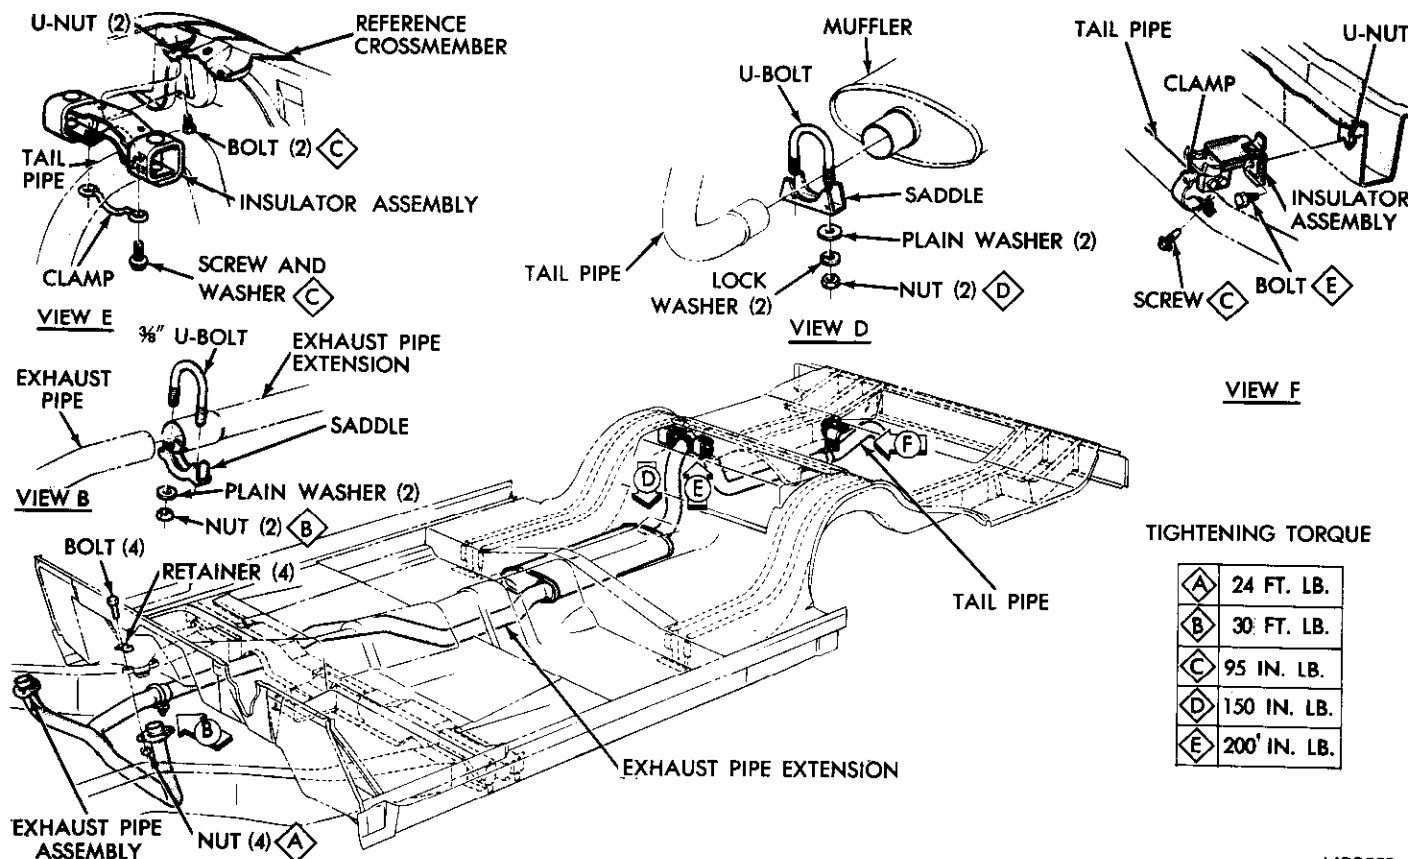
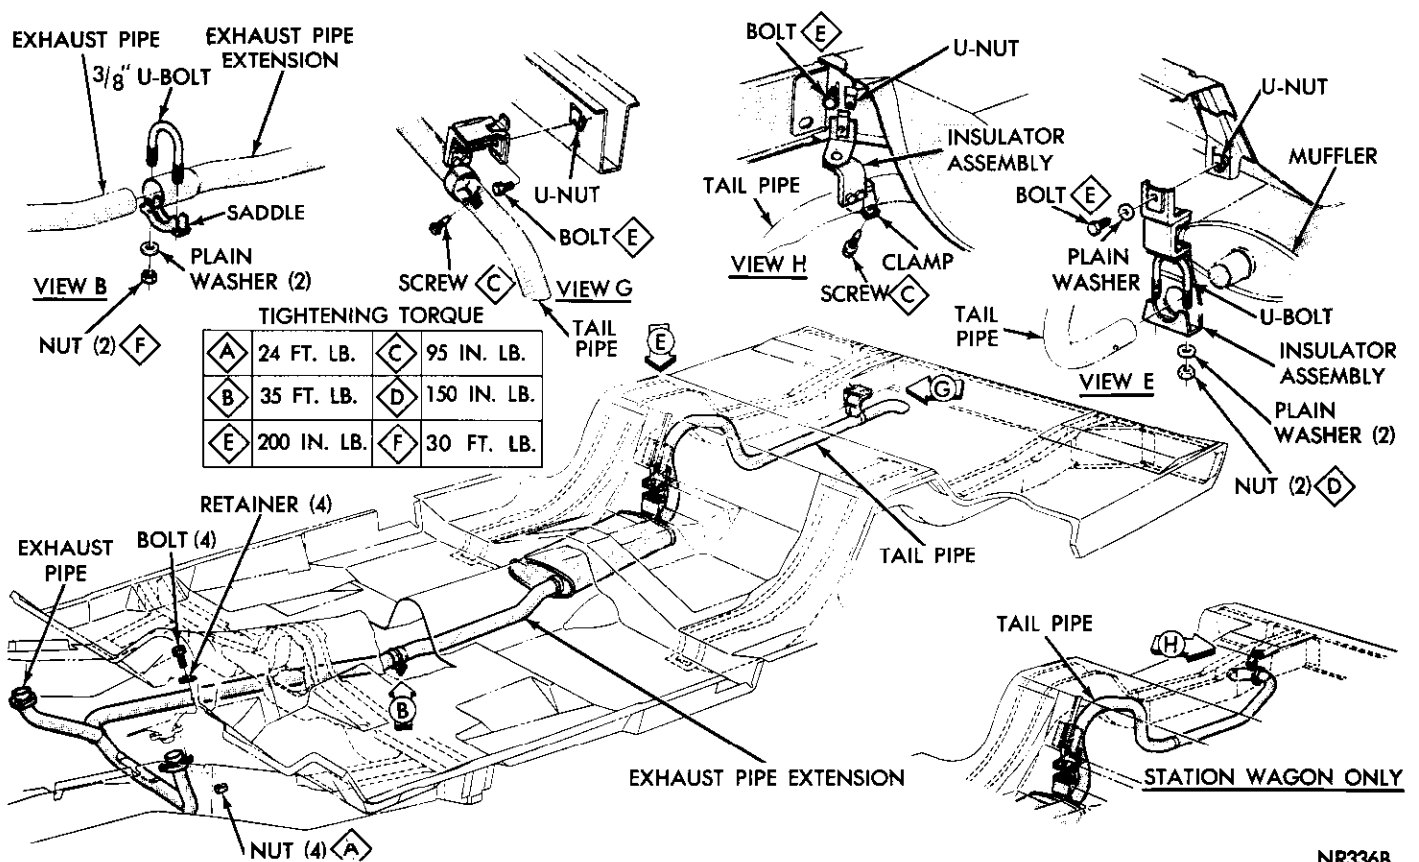

Fig. 1—Exhaust System (225 Cubic Inch Engines)
Fig. 2—Exhaust System (318 Cubic Inch Engines)
The single line exhaust systems (Figs. 1, 2 and 3) use mufflers made of aluminized steel components. The dual exhaust systems (Figs. 4 and 5) use mufflers
The single line exhaust systems used on models with 6-cylinder engines use an integral exhaust pipe and muffler (Fig. 1). On single line systems with V-8 engines, a U-bolt and saddle clamping arrangement is used between the exhaust pipe and exhaust pipe extension (Figs. 2 and 3).
Ball joint connections are used at the juncture of the exhaust manifolds and exhaust pipes on models equipped with 318 cubic inch engines (Fig. 2). No gaskets are used at the ball joint connections. All other V-8 except 426 Hemi and all 6-cylinder engines use gaskets between the exhaust manifolds and pipe flanges.
(2) Remove clamps and supports from exhaust pipe, muffler and tail pipe (Figs. 1, 2, 3, 4 and 5).
(3) Disconnect exhaust pipe at exhaust manifolds and remove exhaust pipe. On models using gaskets at
(1) Assemble exhaust pipe, muffler and tail pipe loosely to permit proper alignment (Figs. 1, 2, 3, 4, and 5).
(2) Assemble exhaust pipe to exhaust manifold. On engines without ball joint seating connections,